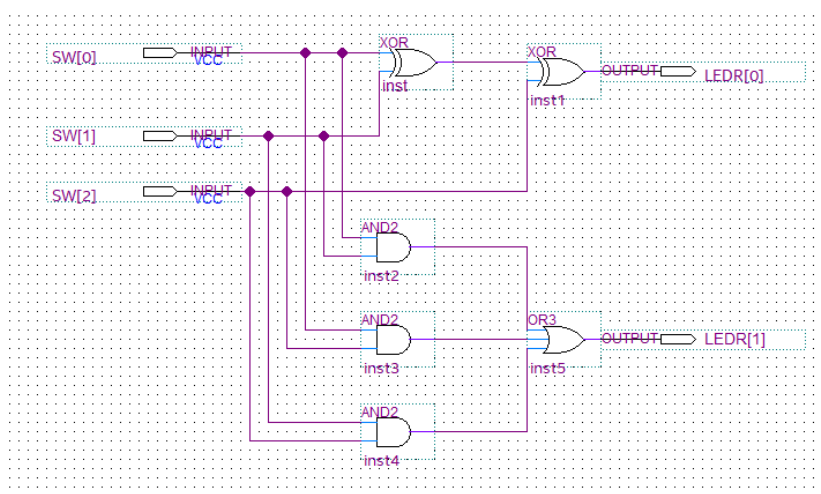

Figure 3. Schematic of a Full Adder.
- As Figure 3 shows, connect the inputs and outputs of the gates together. Connection can be made by selecting the Orthogonal Node Tool from the menu bar. Click, hold, and drag from one of the endpoints to the other end point to make a connection. **Tip:** Moving the mouse pointer over the tool icons will display their respective names. The Orthogonal Node Tool icon looks like this: .
- As shown in Figure 3, name the input components as SW[0], SW[1], SW[2], and name the output components as LEDR[0] and LEDR[1]. You can double-click on the pin to bring up the Pin Properties dialog box or just click on the pin name, right-click and select Properties.
At this point, your schematic should look like the one shown below in Figure 3.
- There are several ways to make pin assignments. One way is to select **Assignments > Assignment Editor** and manually enter the pin assignment for each input and output node. An easier way is to use the DE10-Lite System Builder tool to generate a .qsf file containing the pin assignments. However, to use System Builder to create pin assignments, you must name the input and output nodes using the default names used by System Builder. (These are the names used in Figure 3). These names are specified in the DE10-Lite User’s Manual as well as in the System Builder output files. Another alternative method is to import the pin assignment .csv file for the DE10-Lite. This file should be available on the course Canvas page.
For this section, reuse the full adder from Part I, Figure 3. Since we specified ModelSim-Altera as the simulation tool when we created the project, the project should be configured to run ModelSim-Altera.